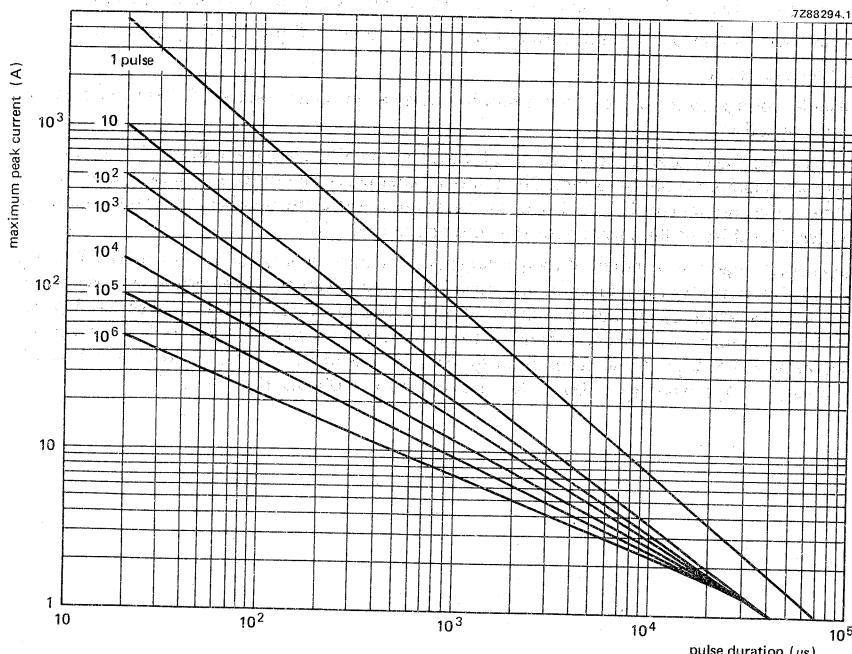

Fig. 3 Max. applicable transient current as a function of pulse duration.
5. A current impulse of 8/20 µs (defined in IEC 60-2 section 6) is used as a standard for impulse current and clamping voltage ratings. The transient energy is given for one impulse applied during the life of the component. Figure 3 gives the derating for different numbers and longer duration of impulses. The shift of the varistor voltage does not exceed ± 5%.